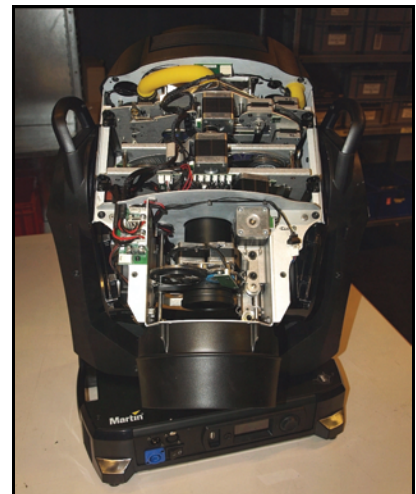

**Figure 12: Access to the head**
2. See Figure 12. Remove both head covers by loosening their Torx 25 captive retaining screws **A** until the screws turn freely. Lift the front of each cover slightly away from the head, then slide the cover towards the front of the head to disengage the rear of the cover.
1. See Figure 12. Hold each cover up to the head and fasten its safety wire retaining clip **B** into the head chassis by pressing the clip through its hole and then sliding it until it is held securely.